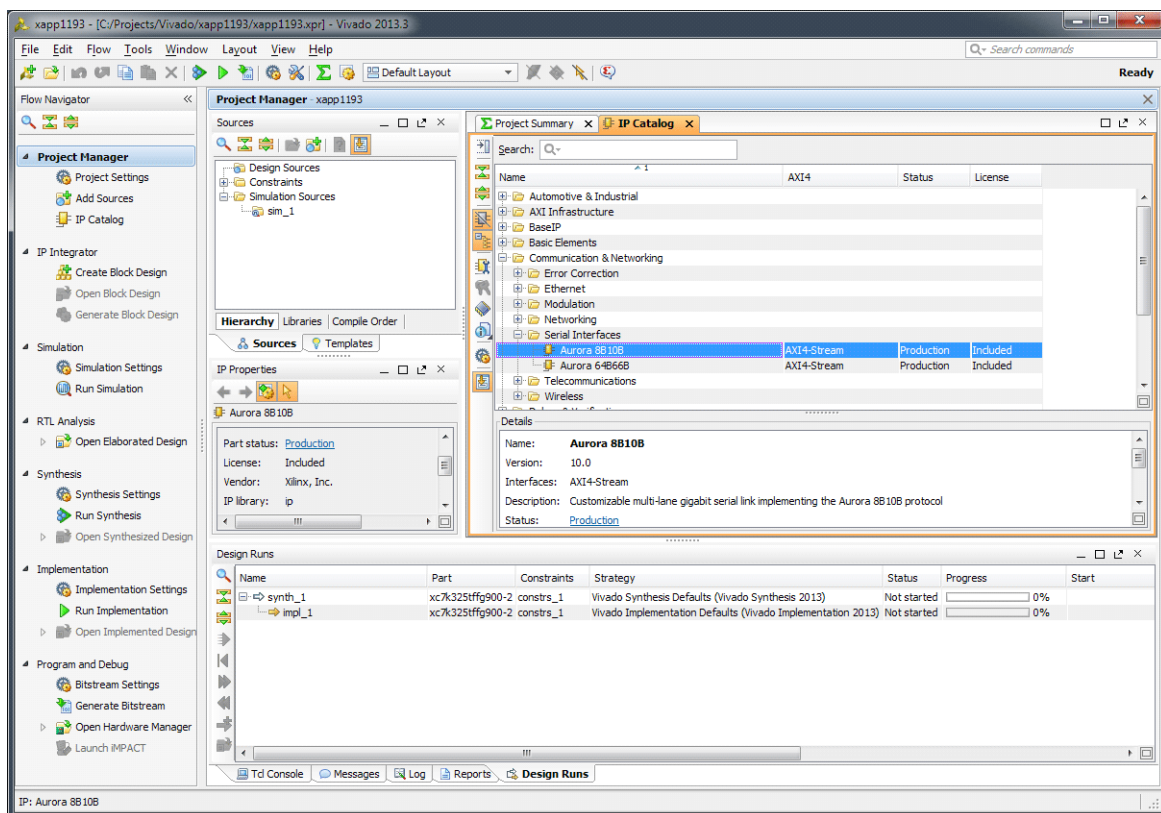

Figure 3: Aurora 8B10B in Vivado IP Catalog
9. Under Project Manager in the Flow Navigator panel, select **IP catalog** and search for **Aurora 8B10B**. The Aurora cores can be found under **Communication & Networking > Serial Interfaces**. See Figure 3.